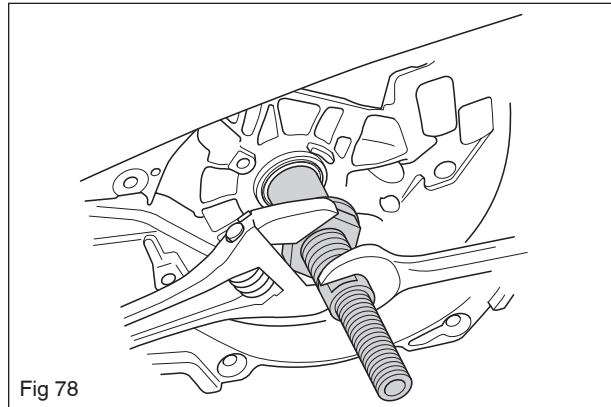

Fig 78
3. Use the 502 50 30-23 tool. Turn the sleeve and slot the crankcase half in place on the flywheel side. Tighten until the gasket is pinned in place between the crankcase halves. See figure 78.